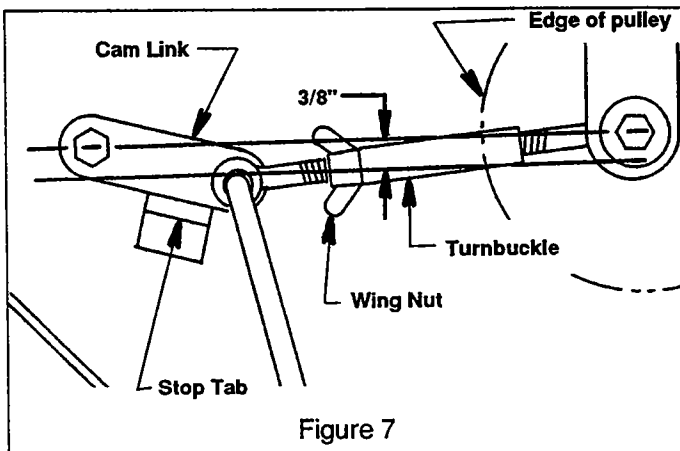
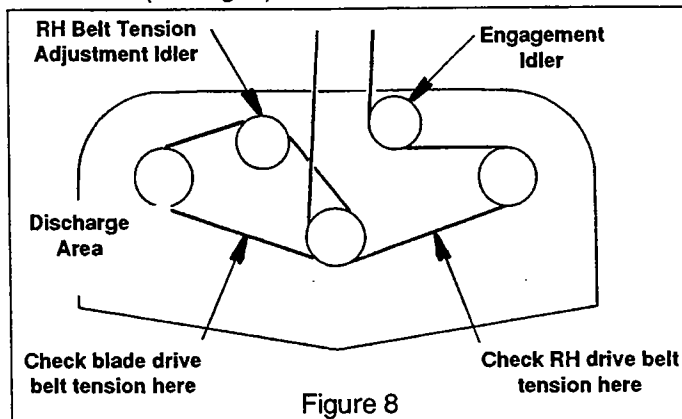

Figure 7
Figure 8
1. Engage blade clutch lever and check for proper over center clearance. There should be about 3/8" between rod and straight edge (See fig. 7). Bend the stop tab to adjust clearance.
2. Adjust belt tension so that the belt moves 1/2" with 10 lbs. of pressure. Check the pressure between the center and left spindle pulleys where applicable (See fig. 8). Second belt driving right spindle should be checked the same way. Adjustment is made by loosening the wing nut and tightening/loosening the turnbuckle (See fig.7).